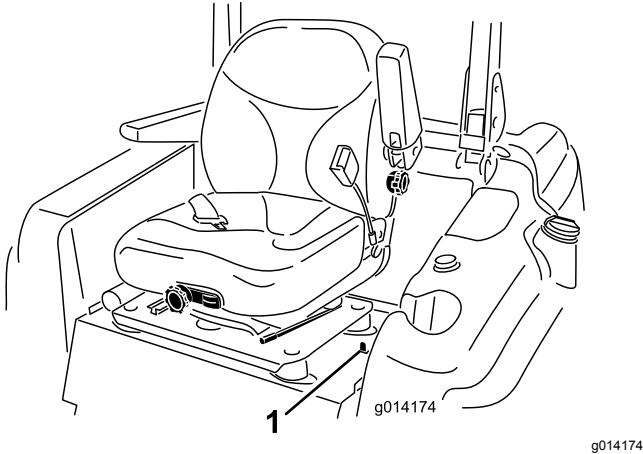

Figure 41
1. Move the seat latch, located on the left side of the seat, rearward to unlatch the seat and pull forward on the top of the seat (Figure 41).